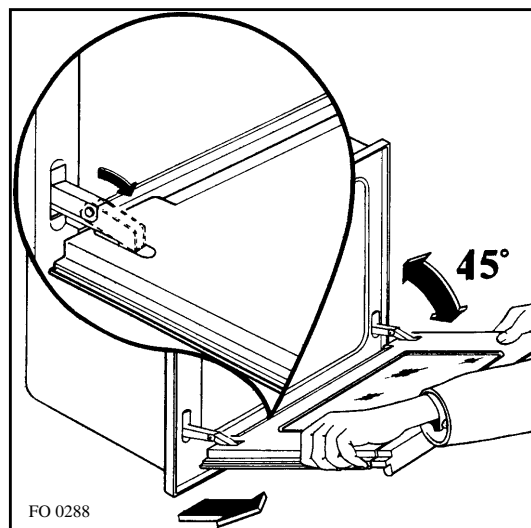

Fig. 13
- c) unlock and turn the small levers located on the two hinges (fig. 13);